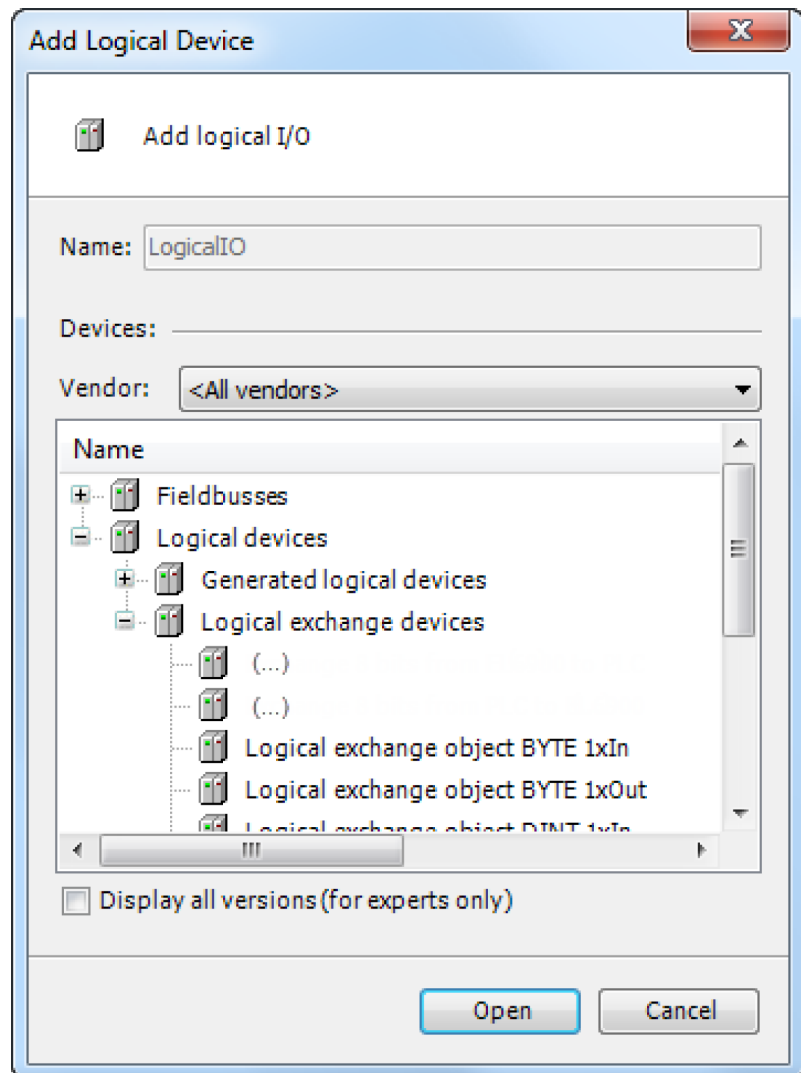

Fig. 26: Dialog box 'Add Logical Device'
3. ➤ In the "Add logical device" dialog (see Fig. 26) in the "Logical devices" category, select the desired logical I/O in the "Logical exchange device" subcategory